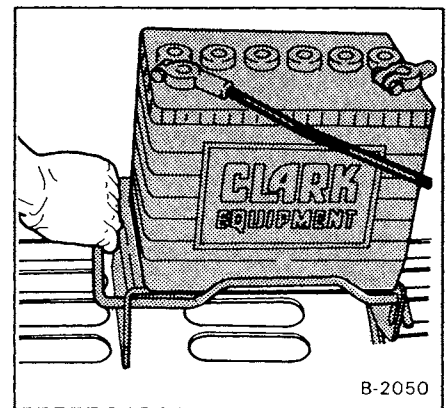
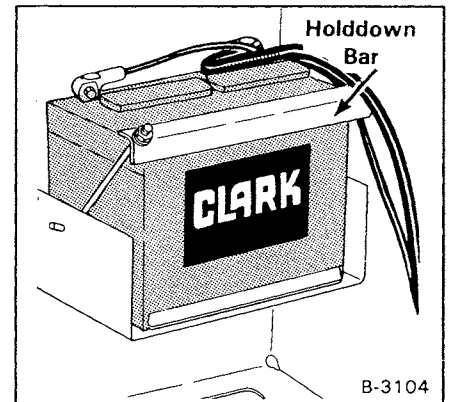

Fig. 1-24 Removal of Battery (Early)
Fig. 1-25 Removal of Battery (Current)
(1) Note the position of the positive terminal (+) and the negative terminal (-) of the battery. To remove the old battery, pull and lift up on the holddown lever (Fig. 1-24) or remove the two nuts and remove battery holddown bracket (Fig. 1-25).